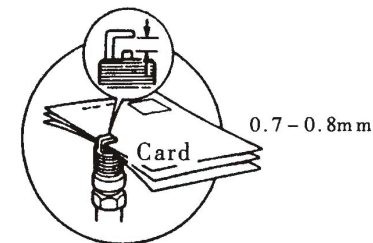

Figure 42
3.4 Check the spark plug clearance to see if it is between 0.7-0.8mm, adjust it if necessary (Figure 42)